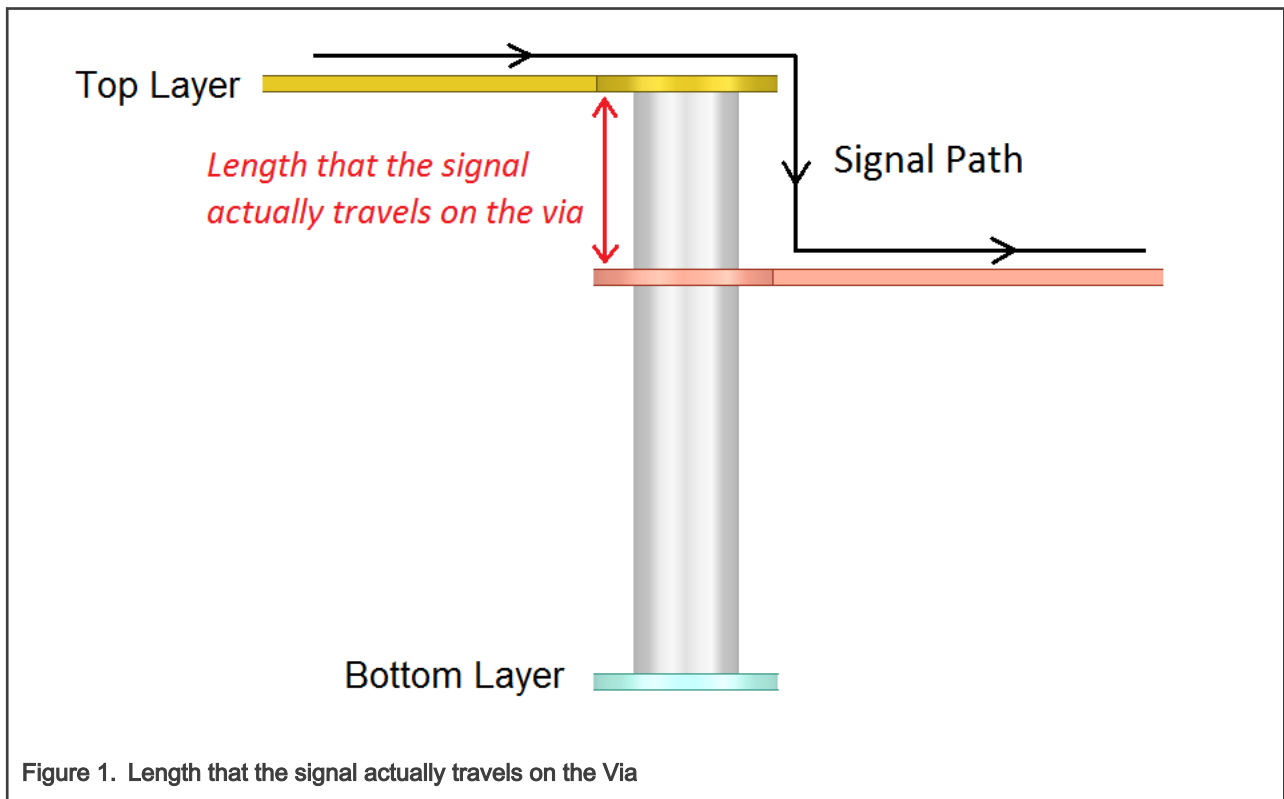

Figure 1. Length that the signal actually travels on the Via
- At a speed of 3200 MT/s, signal vias can be a significant source of crosstalk. If not properly designed, it can introduce crosstalk larger than that from the trace. To minimize via crosstalk, make sure the total number of vias to be two or less on each point-to-point single-ended/differential trace. Place at least one ground stitching via within 40 mils of signal via when switching reference planes to provide continuous return path and reduce crosstalk. If it is not possible to place enough ground stitching vias due to space limitation, try to make the length that the signal actually travels on the via as short as possible, as illustrated in Figure 1.